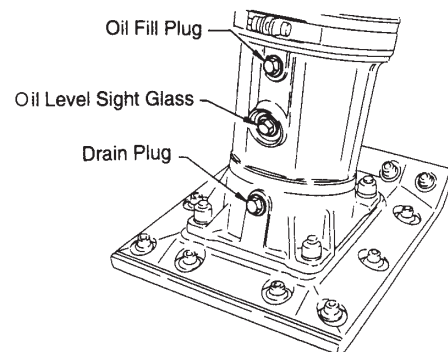

Figure 15. Foot Housing Drain Plug
- Drain oil reservoir on foot housing (Figure 15). Refill with approximately 1.7 pt. (800cc) of 10W-30 motor oil. Oil should be midway in sight glass. Break in oil should be changed after first 50 hours.